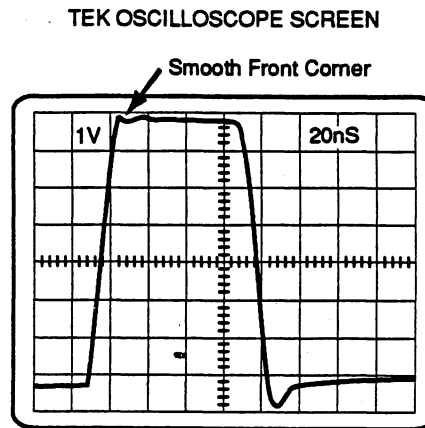

Figure 5-13: High Frequency Compensation Adjustment
5. Adjust C15 and R21 (High frequency compensation) on the High Voltage board to give the sharpest front corner with the least amount of aberrations as shown in Figure 5-13.